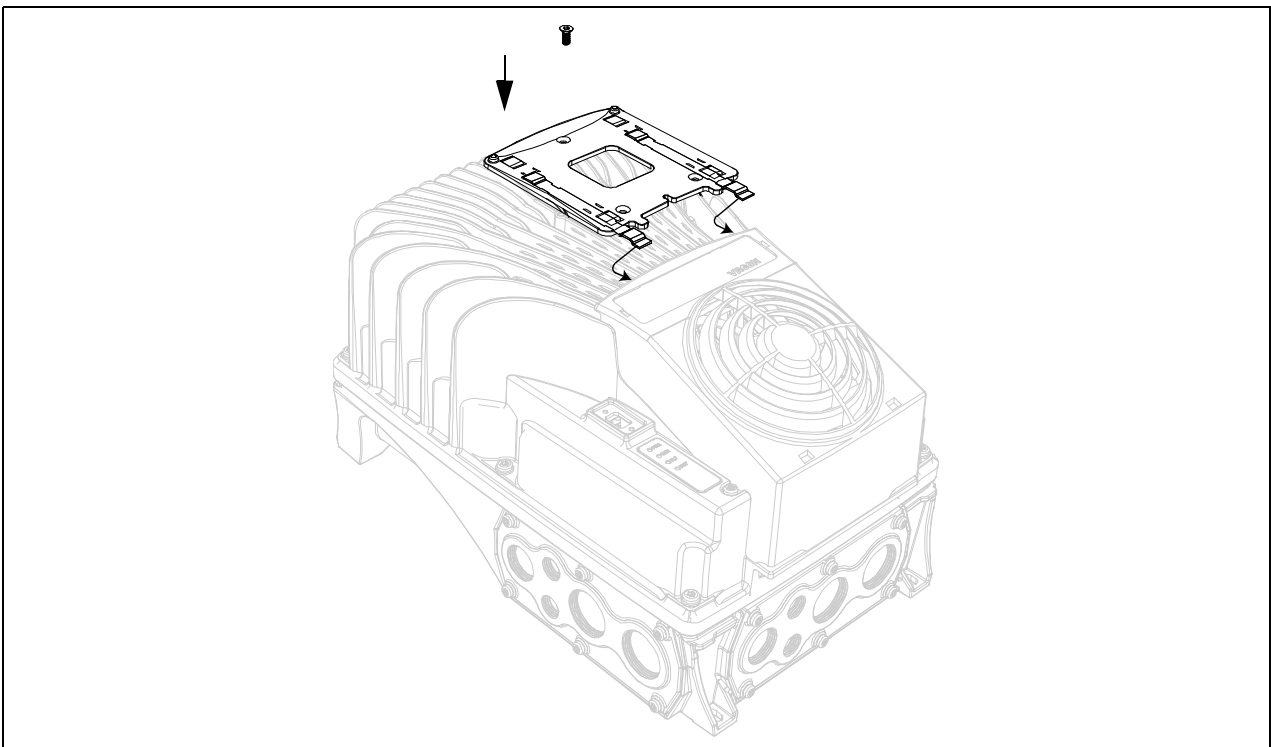

Figure 52. Installation of the keypad holder on the powerhead.
- Install the keypad holder with a screw as shown in the Figure 52. The metal sheets of the keypad holder have to be mounted under the fan holder as shown in the following figures.